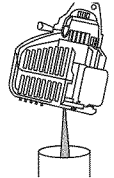

Fig. 27
- Pour the oil out of the oil fill hole and into a container by tipping the unit to a vertical position (Fig. 27). Allow ample time for complete drainage.